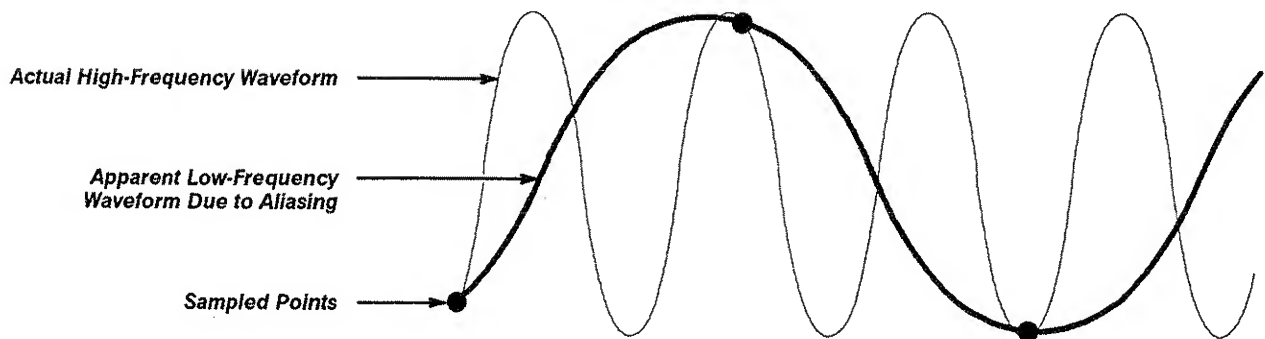

Figure 2-13: Aliasing
*Aliasing* occurs when the highest frequency component of the input signal is greater than  $\frac{1}{2}$  the current sample rate. That is, the oscilloscope cannot acquire the signal fast enough to construct an accurate waveform record. Figure 2-13 illustrates this by showing a slower aliased waveform on top of the actual input waveform.